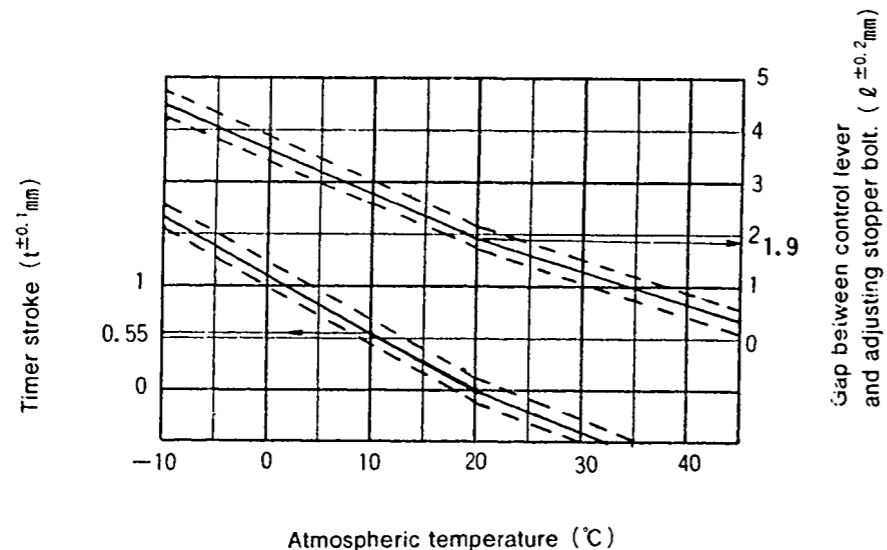

Fig. 2
1. Calculate the timer stroke from Fig. 2 according to the atmospheric temperature at the time of adjustment.
1. Calculate block gauge dimension $l \pm 0.05$ mm from Fig. 2 according to the atmospheric temperature at the time of adjustment.
Formula for calculating Fig. 2